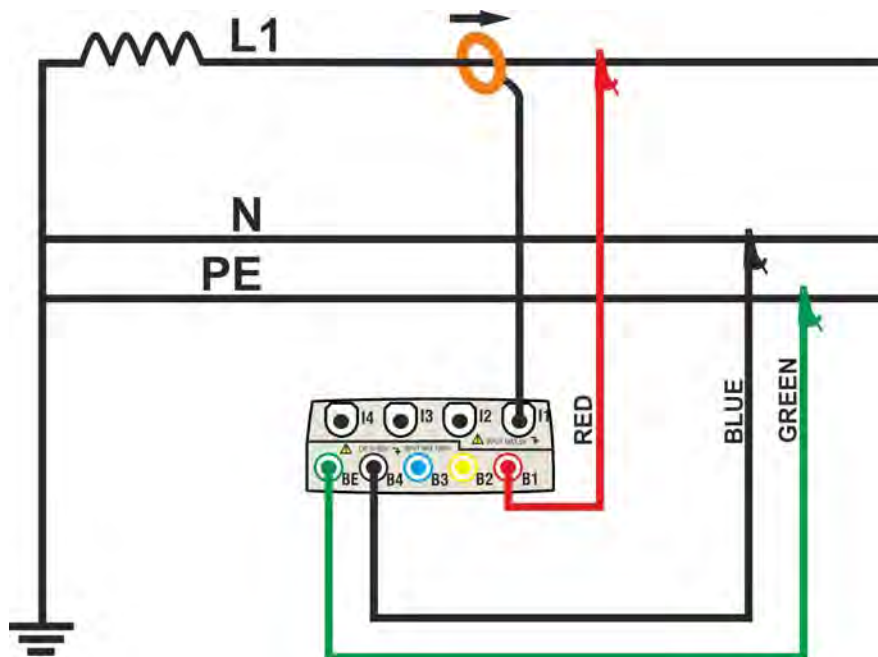

Fig. 131: Meter connection in a Single phase system – ENG UK type
2. Connect voltage test leads on Phase, Neutral and Ground cables considering the colours as shown in Fig. 131).
3. Connect the transducer current clamp on L1 Phase cable as shown in Fig. 131) respecting the clamp's arrow direction indicating the current standard sequence from generator to load. **On Real Time Values' section screens always verify the positive value of Active Power and the power factor relative to load which should be normally inductive** before starting a recording. Reverse the clamp by 180 degrees on cables in case of negative readings.